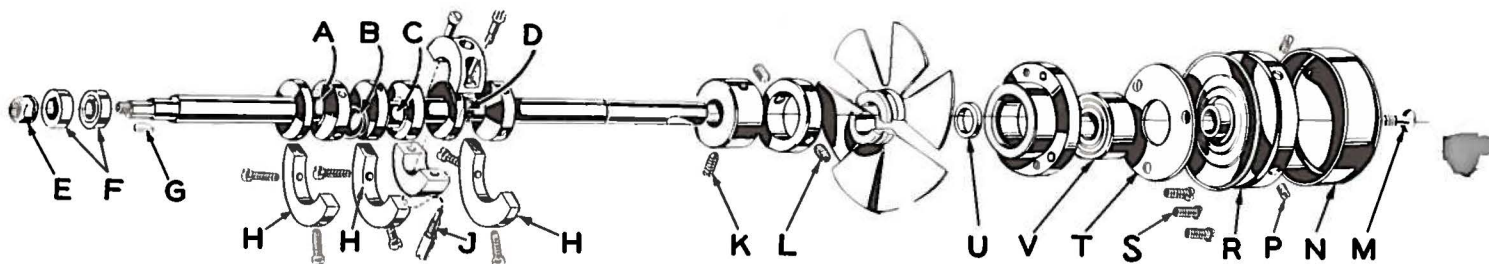
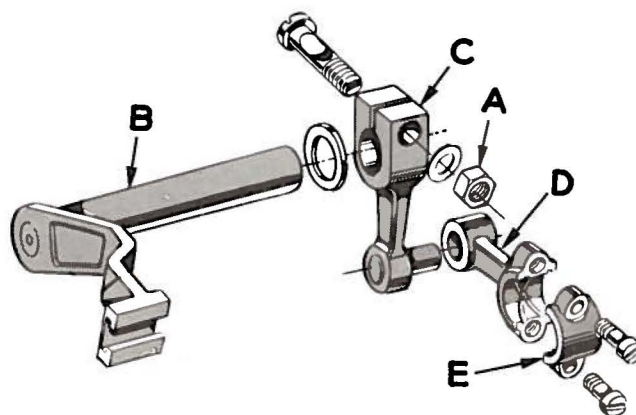

Fig. 17
Fig. 18
3. Remove feed eccentric nut (F, Fig. 17) and, with the aid of the eccentric extractor, slip off the eccentrics (F).
4. Remove key (G).
5. Remove three counterweights (H). Identify these counterweights so that they will be re-assembled in the proper places.
6. Remove screw (J) which holds crankshaft split bearing. This screw is reached through bottom of bed casting.
8. Loosen clamp nut (A, Fig. 18) which holds upper knife driving arm (B). Access to clamp nut is through top cover. Draw driving arm to the left until upper knife driving lever (C) and connecting rod (D) drop, allowing removal of bearing cap (E). This is at bearing point (C, Fig. 17) on crankshaft. Observe same precautions when re-assembling cap as described in 7 above.
9. Remove screw (K, Fig. 17) which holds inner right crankshaft bearing. This screw is reached through bottom of bed casting.
10. Loosen two screws (L) in fan collar; remove both halves of cooling fan.
11. Remove screw (M); take off pulley cap (N).
12. Loosen two screws (P); remove pulley (R).
13. Remove three screws (S); take off bearing retaining plate (T).
15. If necessary to replace ball bearing (V), it should be pressed off shaft on an arbor press. In replacing bearing it must be pressed on carefully until it seats against ground thrust washer (U).